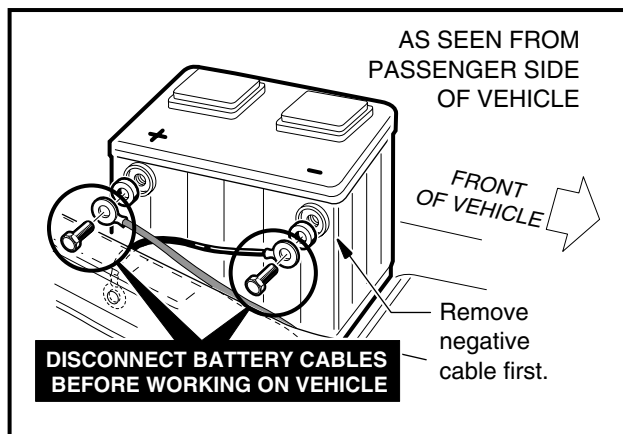

Figure 1-1 Gasoline Vehicle
- Disconnect battery cables, negative (–) cable first (Figure 1-1, Page 1-3).
- **Disconnect battery cables, negative (–) cable first. See Figure 1-1, Section 1, Page 1-3.**